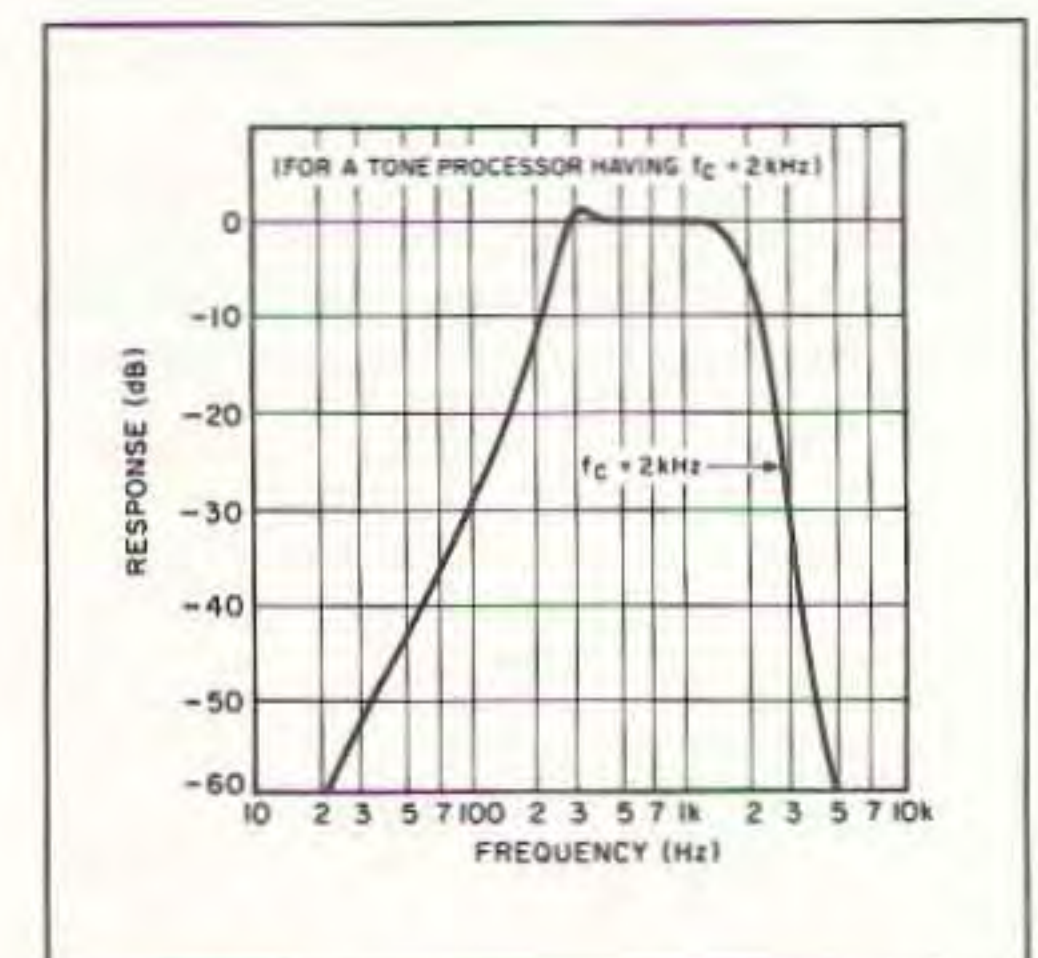

Figure 7. Tone processor frequency response characteristics.
Printed circuit patterns for the circuit boards and the circuit layout are shown in Figure 6. Place a pin in the circuit board hole marked test point (TP). Photo A shows the completed tone processor in its case. The frequency characteristics of the tone processor where the cutoff frequency f_c is set to 2 kHz are shown in Figure 7. The upper and lower slopes of the curve illustrate the difference in the characteristics of the low-pass Butterworth filter and the high-pass Chebyshev filter. The circuit board can be put in a project box, as shown in Photos A and B, with two rotary variable resistors on the front panel to control the cutoff frequency of the low-pass filter and the volume, as well as an on/off switch.